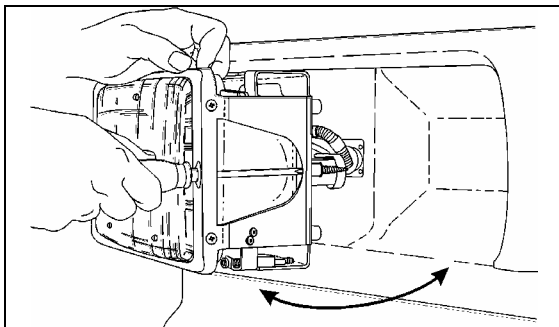

FIGURE 52: HEADLIGHT ASSEMBLY
1. Remove screw fixing headlight assembly to its housing (Fig. 52) and pivot assembly out.